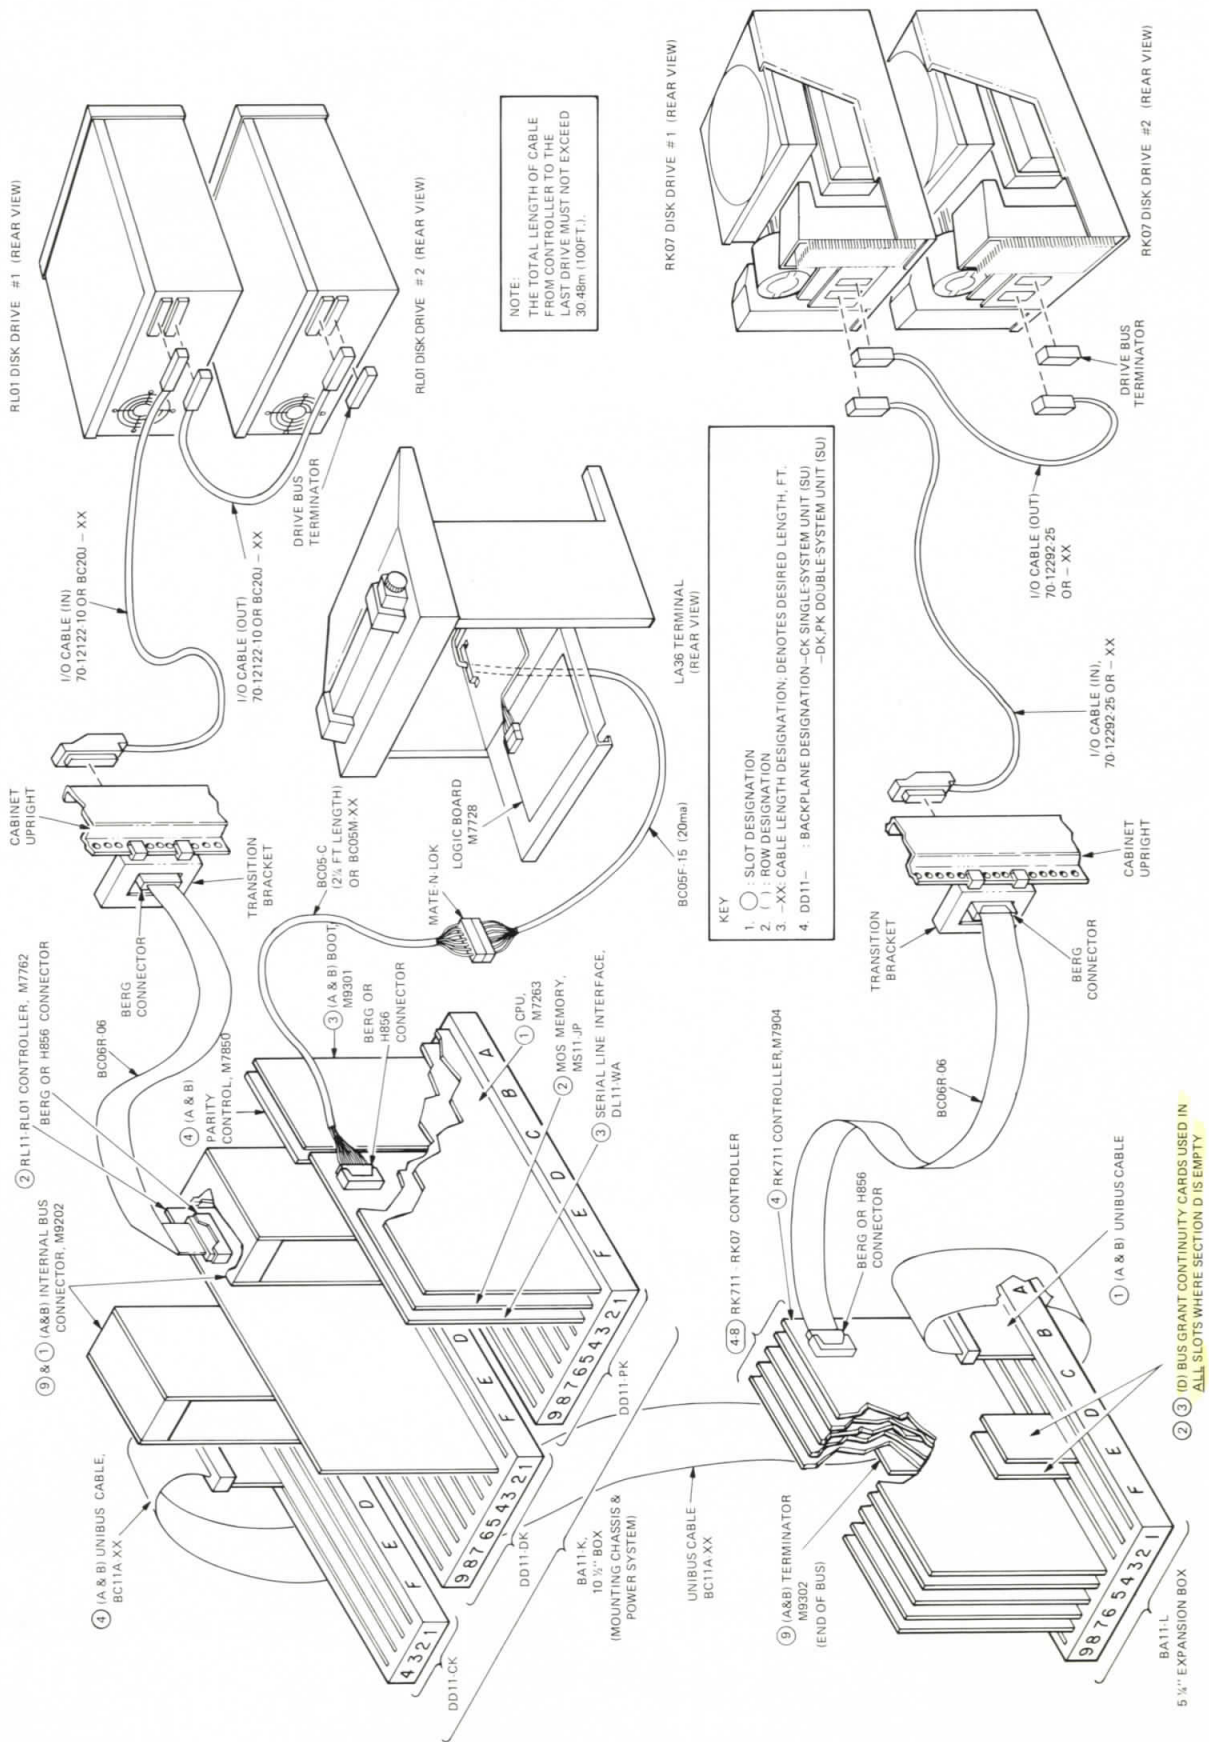
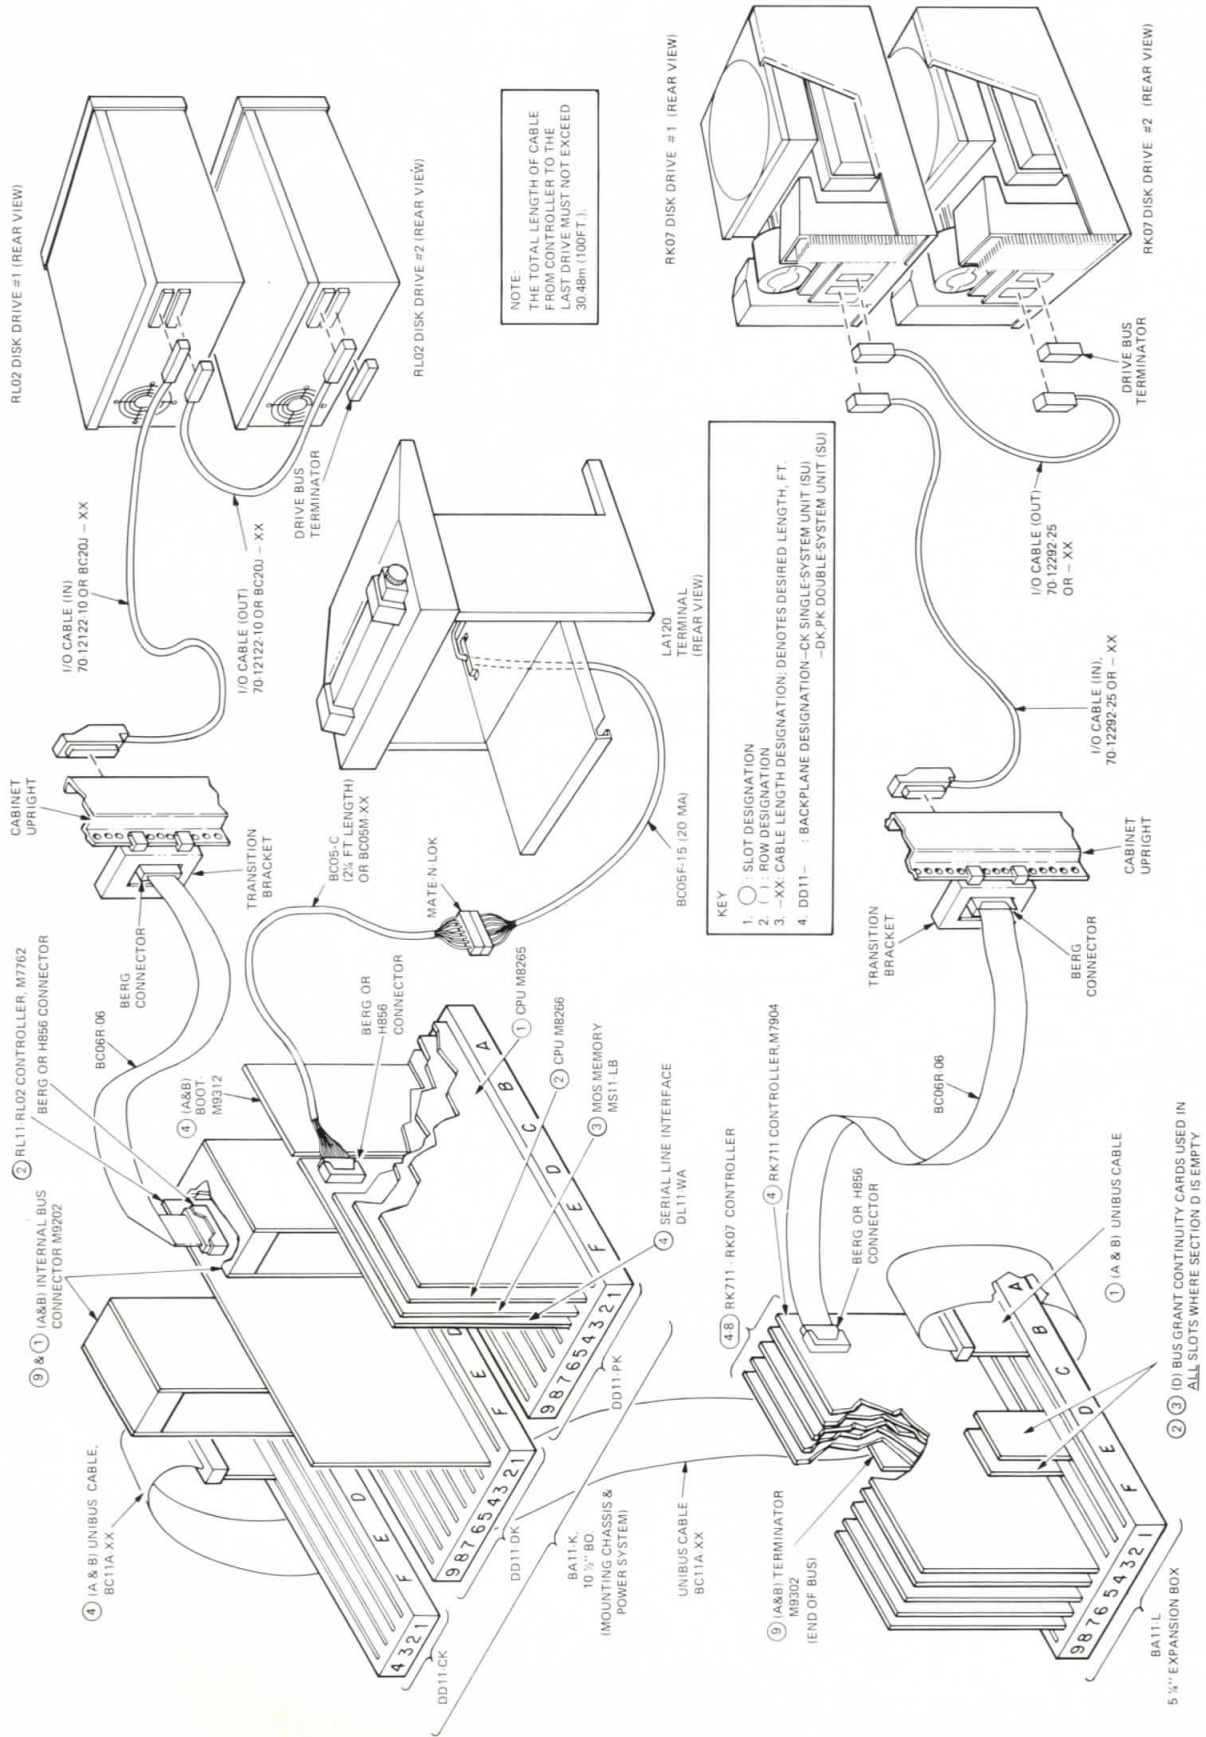

Figure 13 Typical PDP-11/04 Configuration
Figure 14 Typical PDP-11/34A Configuration
8. Mount all dual modules in sections A and B of a slot, and all quad modules in sections C, D, E, and F of a slot. (See Figures 13 or 14.)
The mechanical layout of the PDP-11/04 and PDP-11/34A consists of backplanes organized as shown below. A pictorial view of a typical PDP-11/04 (26 cm CPU) system is shown in Figure 13. That view also shows details of the backplane layout. A PDP-11/34A system is depicted in Figure 14.